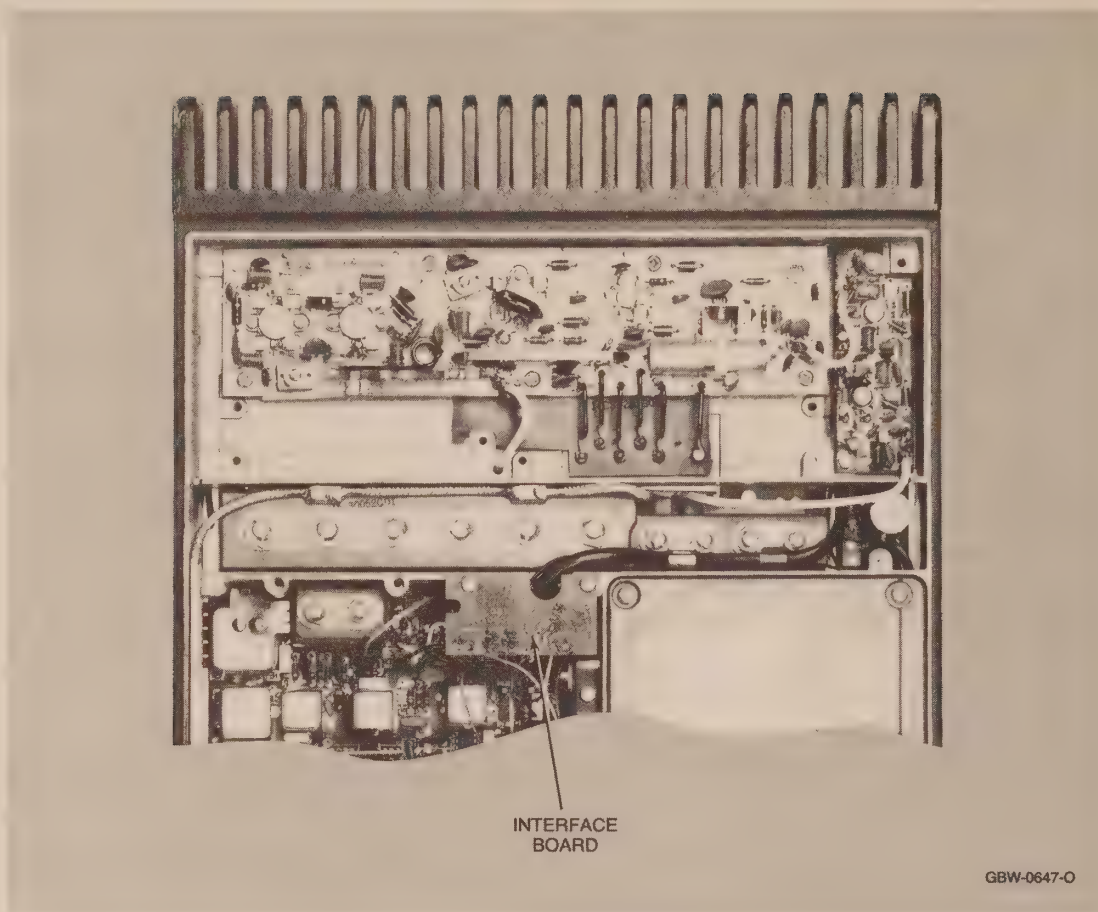

Figure 5. Interface Board in UHF SYNTOR Radio
(10) Solder the orange wire to J6-26 on the interconnect board.
(11) Solder the yellow wire to J1-9 on the interconnect board.
(12) Screw the interface board to the radio chassis. (See Figure 5.)